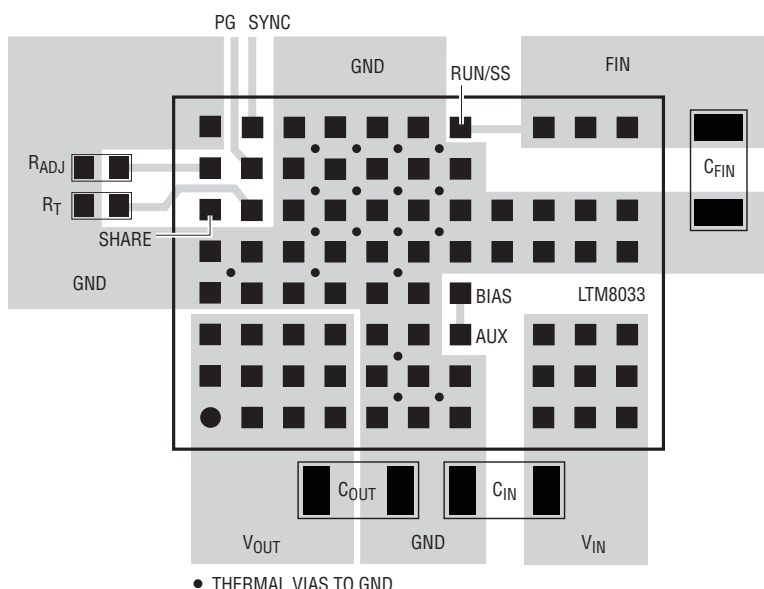

Figure 4. Layout Showing Suggested External Components, GND Plane and Thermal Vias
Most of the headaches associated with PCB layout have been alleviated or even eliminated by the high level of integration of the LTM8033. The LTM8033 is nevertheless a switching power supply, and care must be taken to minimize EMI and ensure proper operation. Even with the high level of integration, you may fail to achieve specified operation with a haphazard or poor layout. See Figure 4 for a suggested layout. Ensure that the grounding and heat sinking are acceptable.
6. Use vias to connect the GND copper area to the board's internal ground planes. Liberally distribute these GND vias to provide both a good ground connection and thermal path to the internal planes of the printed circuit board. Pay attention to the location and density of the thermal vias in Figure 4. The LTM8033 can benefit from the heat sinking afforded by vias that connect to internal GND planes at these locations, due to their proximity to internal power handling components. The optimum number of thermal vias depends upon the printed circuit board design. For example, a board might use very small via holes. It should employ more thermal vias than a board that uses larger holes.